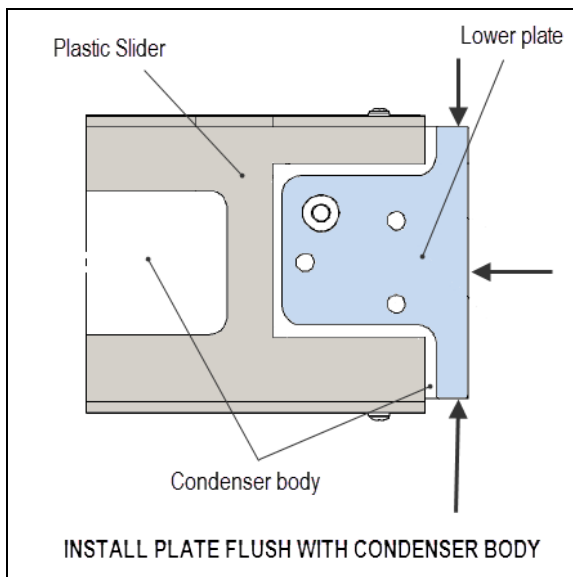

Fig.20
15. Put back the plastic slider in its place and reinstall the nine (9) fan side screws.
16. Install the edges of the lower reinforcement plate flush with the condenser body and mark the center of the plate holes using a center punch (Fig.20 & 21).